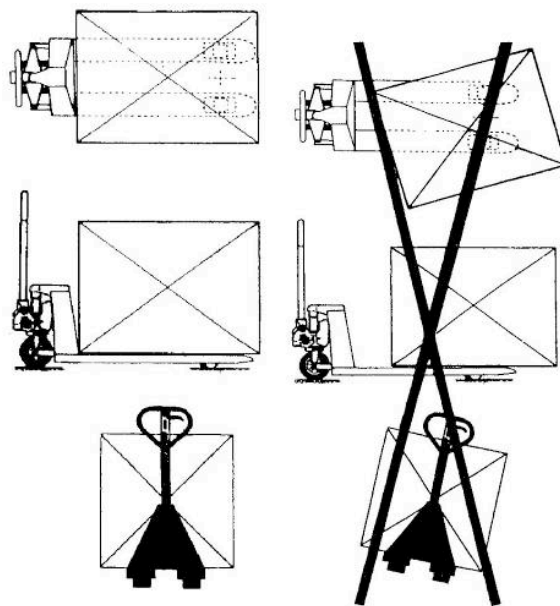

fig 6
5.2 The cargo loading type is shown as fig 6